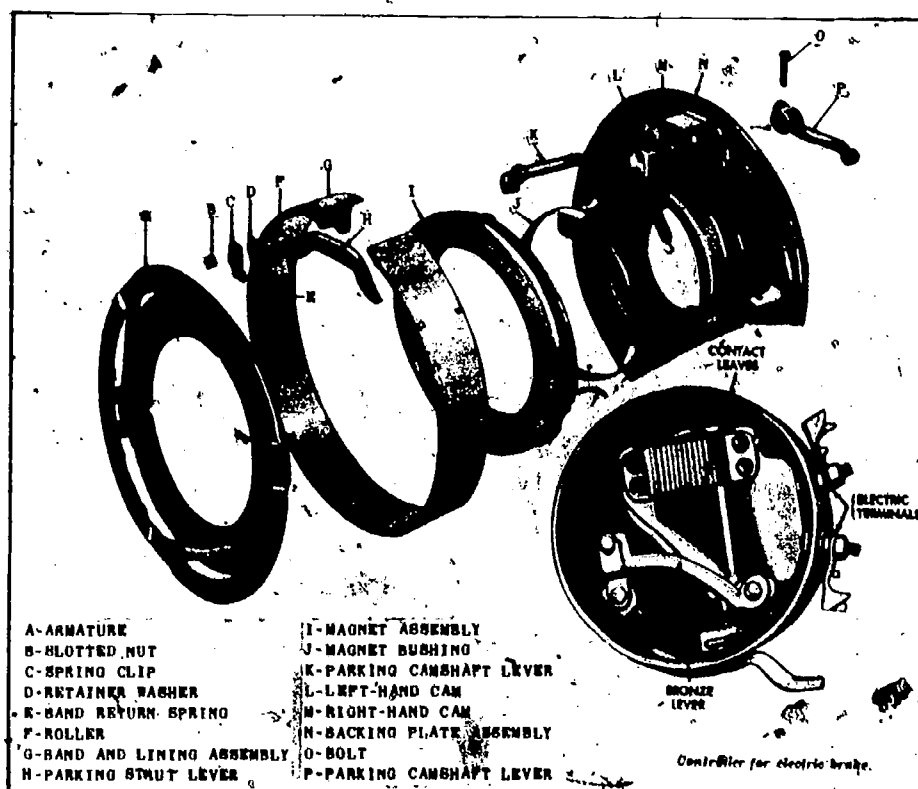

Fig 3-13. Electric brake and brake controller.
4. Electrically actuated. These brakes are used primarily to control attachments, although some vehicles use electricity for other brakes. Figure 3-13 shows the electric brake controller and a disassembled view of an electric brake. The operator moves a lever on the controller which varies the current to the brakes according to the position of the controller lever. The current flowing through the magnet assembly creates a magnetic field which attracts the armature assembly. The armature rotates with the rotating unit and as the magnet pulls toward the armature it also tries to rotate. The rotation of the magnet assembly causes a camming action on the brake, stopping the rotating unit.